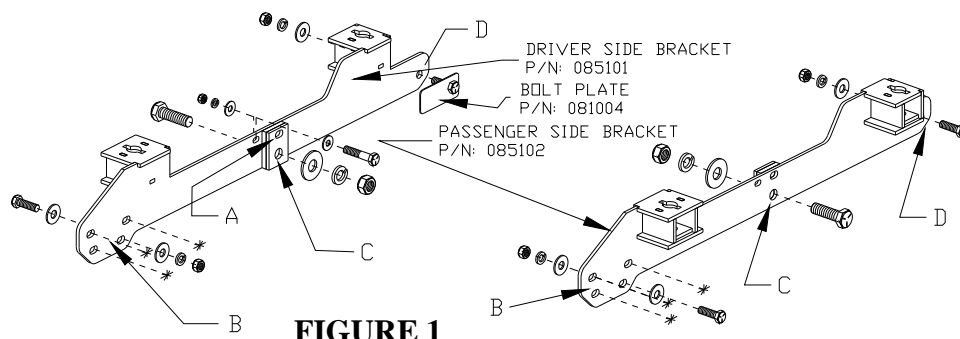

FIGURE 1
2. Temporarily attach the Mounting Bracket to the frame, using the 3/4" x 2 1/2" bolt in hole C, and the 3/8" x 2" bolt into the hole directly above C (**Figure 1** above). If the truck is equipped with overload springs, use one of the bolts that you removed when taking the overload bracket off, and place the bolt into a hole B. If the truck is NOT equipped with overload springs, use a 1/2" x 1 1/2" bolt provided (**Figure 1** above). (Some Mounting Brackets may have a slight warp to them due to the metal characteristics during the welding process. If the bracket has a warp, you will need to draw the bracket tight against the frame using either the bolts or by adding a clamp to assist in drawing the bracket against the frame.) Tighten sufficiently to hold the Mounting bracket tight against the frame.
1. Attach the brake cable to the Mounting bracket using the 3/8" x 2" bolt through hole **A** (directly above hole **C** on the driver side). (See **Figure 1**).
2. Install bolts **B** (**Figure 1**), or use the bolts that were removed with the overload spring bracket into the **B** indicated holes, and tighten. (It may be necessary to drill these holes out to 1/2" to accept the 1/2" bolts).
3. Install the 3/4" bolt **C** shown in **figure 1**.
4. Drill hole **D** to 1/2", and fasten on the driver side with the Bolt Plate shown in **Figure 1**, and on the passenger side with 1/2" x 1 1/2" bolt **D**.